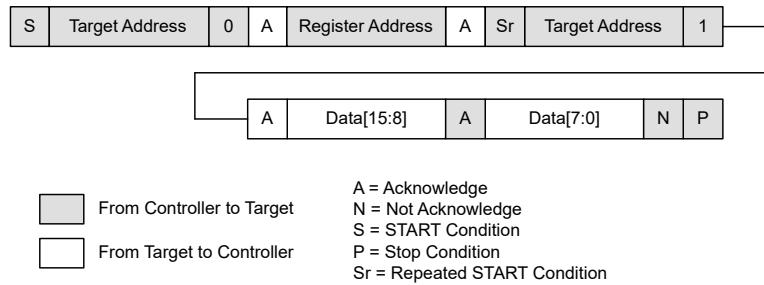

図 7-23. Read A Single Register
7.5.1.5.3 Reading a Single Register (図 7-23)
図 7-23 shows a diagram of this protocol. Steps for this protocol are: